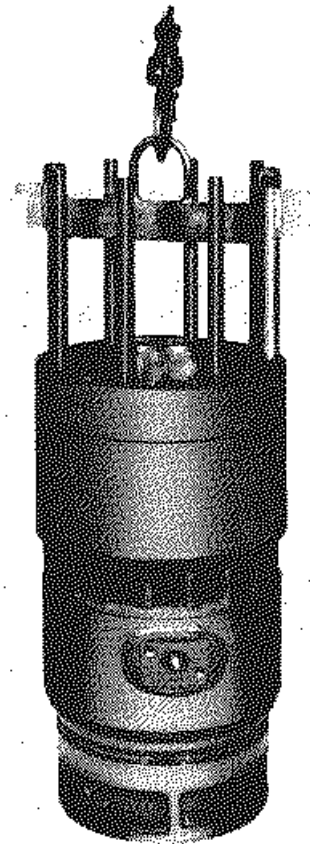

Fig. 5-17 - Liner Installation Using Liner Lifter
29. Apply the liner lifter, Fig. 5-17, over the liner studs and secure with the stud nuts.